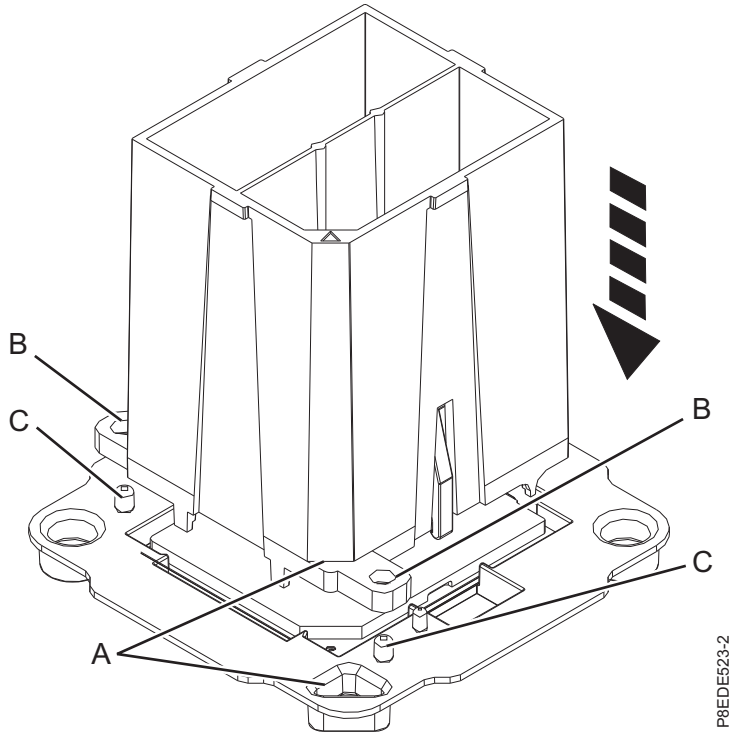
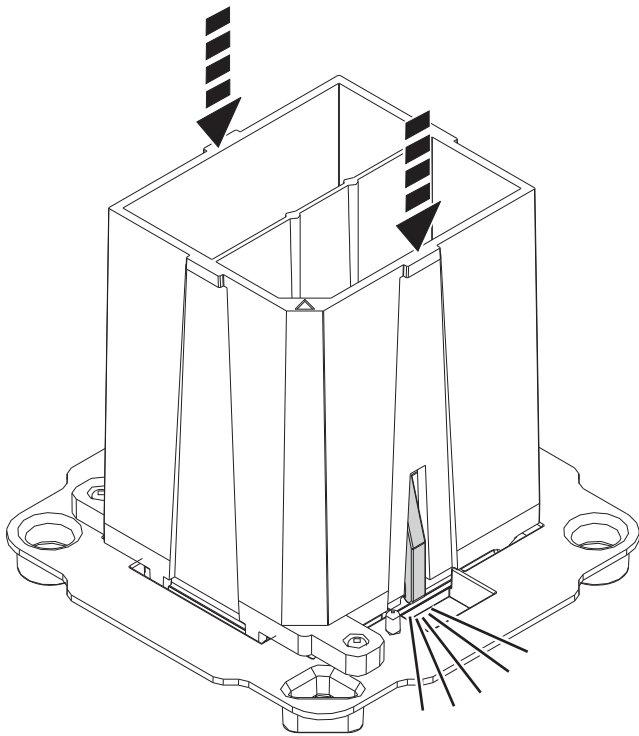

Figure 187. Aligning the removal tool
Figure 188. Locking the system processor module into the tool
- a. Remove the replacement processor module from the shipping tray. Using the supplied removal tool (part number 01AF101), align the beveled corner (**A**) of the tool over the beveled corner of the module as shown in Figure 187 on page 164.
- b. Lower the tool over the system processor module by ensuring that the two guide pins (**C**) are inserted into the alignment holes (**B**) on each side of the tool as shown in Figure 187 on page 164. Then, push down on the tool to lock the system processor module into the tool as shown in Figure 188 on page 164. Do not press the blue release tabs until directed to do so later.